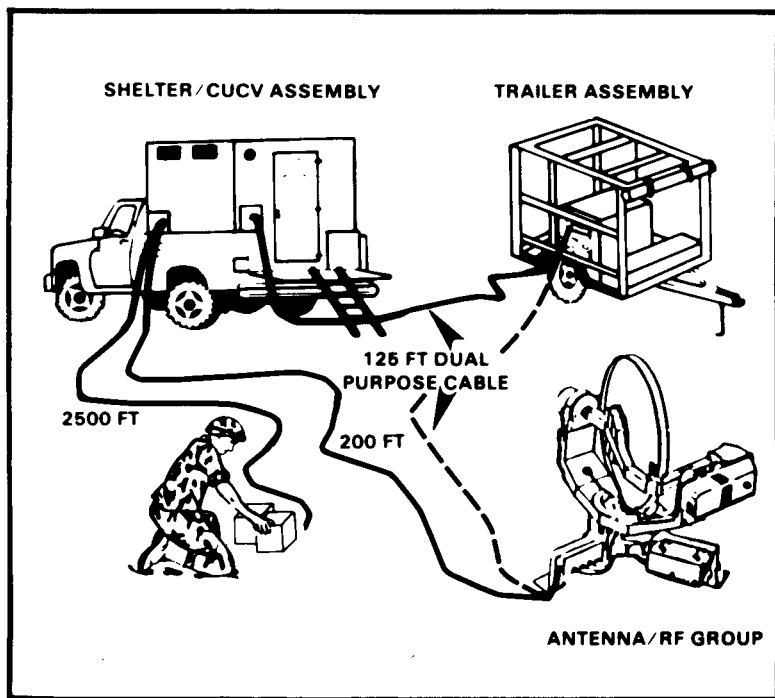

Figure 1-23. SCOTT Terminal AN/TSC-124 (deployed configuration).
a. The AN/TSC-124 is a single-channel, tactical satellite communications terminal. It provides highly survivable, antijam and high altitude electromagnetic pulse-protected (HAEMP) satellite communications for nonstrategic forces, contingency units, special operations units, and theater forces. It will provide critical command and control communications and replace existing terrestrial communications nets. The AN/TSC-124 will survive when the enemy has degraded or destroyed other communications, although voice communications will be possible. (See Figure 1-23.)